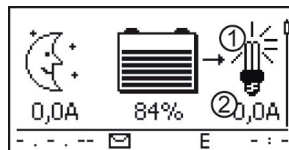

Fig. 15 Display content after connecting the load output
3. ➞ Switch on the load output. The lamp ① (Fig. 15) appears on the display.
4. ➞ Switch on the load. Load currents ② greater than 0.1 A are shown on the display.
5. ➞ If Fig. 15 is not displayed then check the installation and if necessary correct the error using section 15.